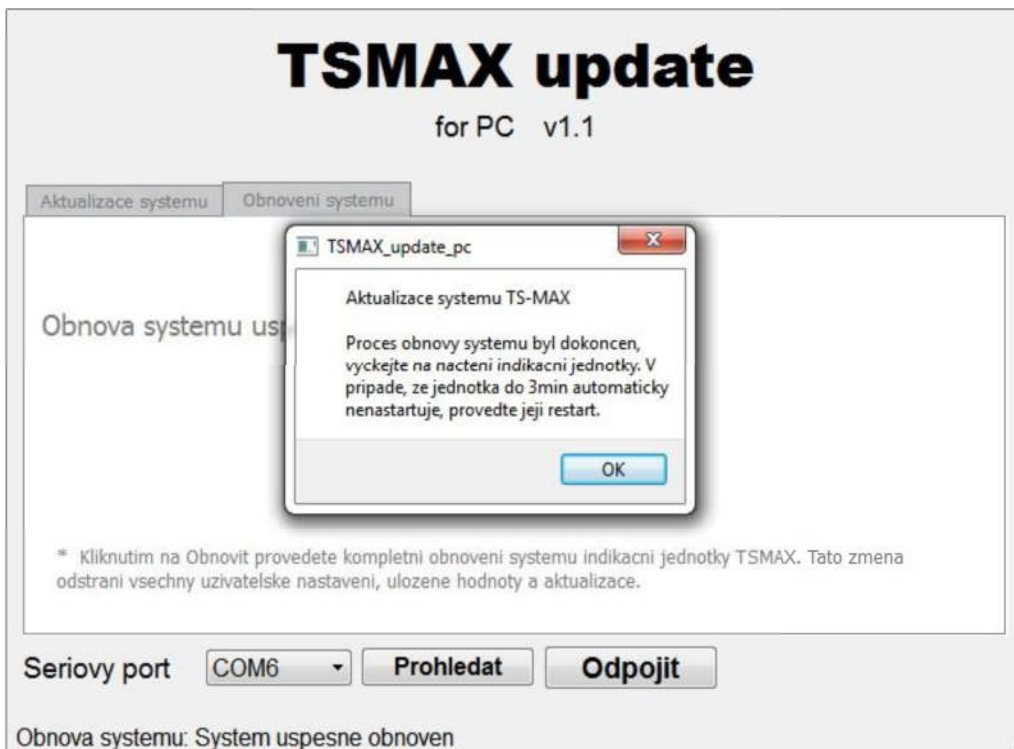

Fig. 58: System restart – completion
- ⑩ After completing the system restart information is displayed on the completion (see fig. 58: System restart – completion).